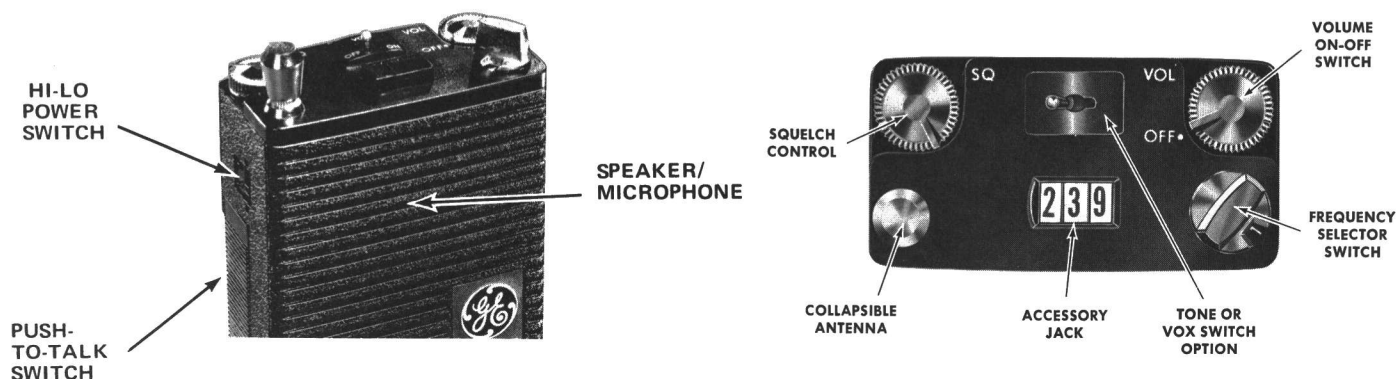

Figure 1 - Operating Controls
3. Solder in the new fuse being careful to heatsink the fuse lead with a pair of long nose pliers between the solder terminal and fuse (see Figure 1). Keep the fuse heatsinked until the solder cools.